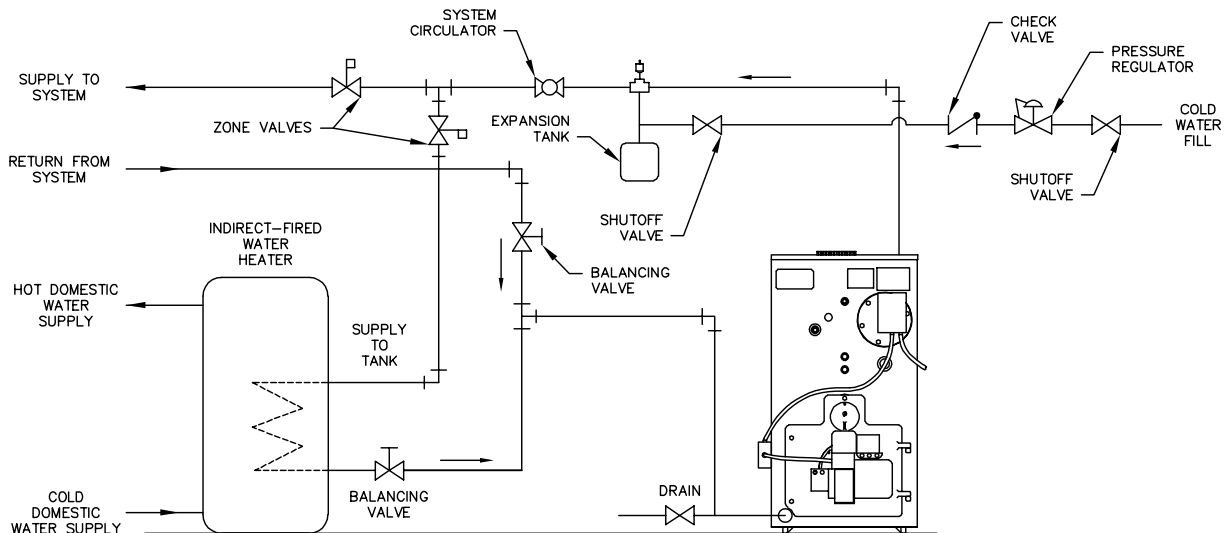

Figure 3.6: Piping with Peerless® Indirect Water Tank
5. If using a Partner® indirect fired water heater or other, see Figure 3.6 for typical piping. Also refer to additional instructions supplied with the Partner®.